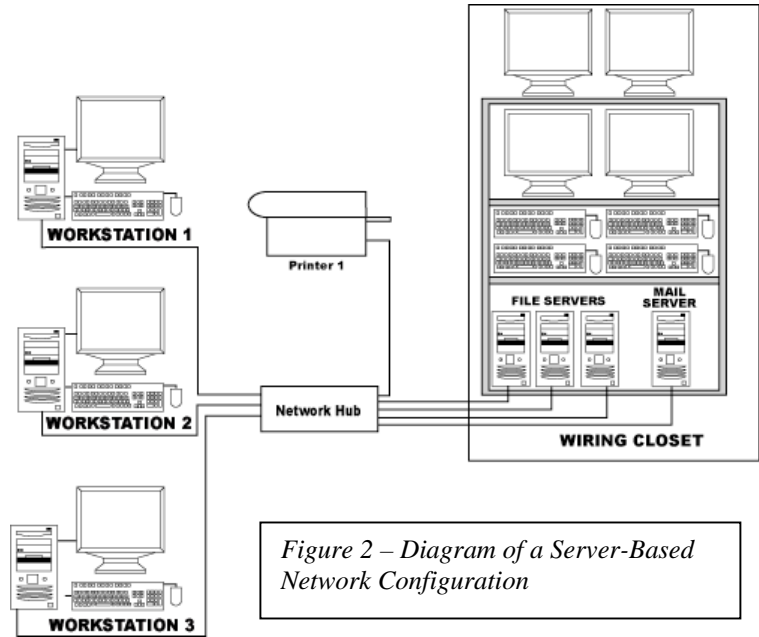
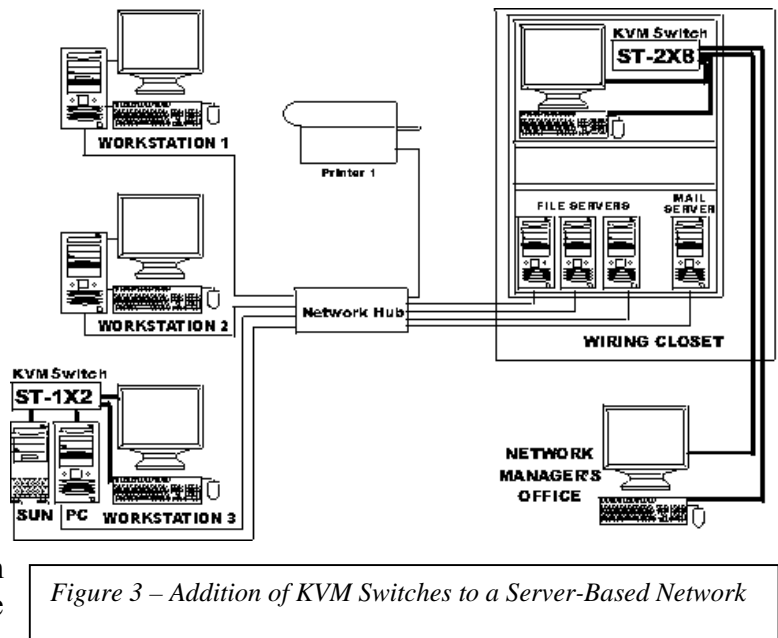

Figure 2 – Diagram of a Server-Based Network Configuration
Figure 3 – Addition of KVM Switches to a Server-Based Network
A KVM switch is not a substitute for networking computers, but rather can add functionality to a network. A network utilizes a combination of hardware and software to allow attached computers to share files, printers, and other resources. Computers attached to the network are called *workstations*. Each computer is independent, with shared privileges to the printer and server. In the application illustrated in *Figure 2*, any workstation can share files or use the printer or servers.
Users on a network with a Windows operating system can access files which reside on other workstations in the network (as long as the other workstations have been set up to allow them access). However, they cannot run programs that reside on the other workstations, or see that workstation’s desktop on their monitor. In the application illustrated in *Figure 3*, KVM switches have been added that would provide these capabilities.
- Direct access to the host console port. There are some privileges that the console retains which cannot be accessed from another workstation. *Figure 3* illustrates a modification of the application in *Figure 2*. Here, the KVM switches allow the user to control any workstation connected to the switch with full privileges.
KVM Switches are hardware based and transparent to the attached computers. KVM switches do not need special software because they do not change the way the computer operates or interacts with users. The modification illustrated in *Figure 3* includes some applications for KVM switching. A Sun® computer is added to Workstation 3’s workspace. The user at Workstation 3 can now control both the Sun and PC computers with one keyboard, monitor and mouse. The addition of an NTI ST-2x8 multiple-user/multiple platform matrix KVM switch with *On Screen Display* (OSD) and *Security Features* in the server room will allow a network administration staff to control multiple computers (PCs, Suns and Macs) from both the network administration office and the server room.